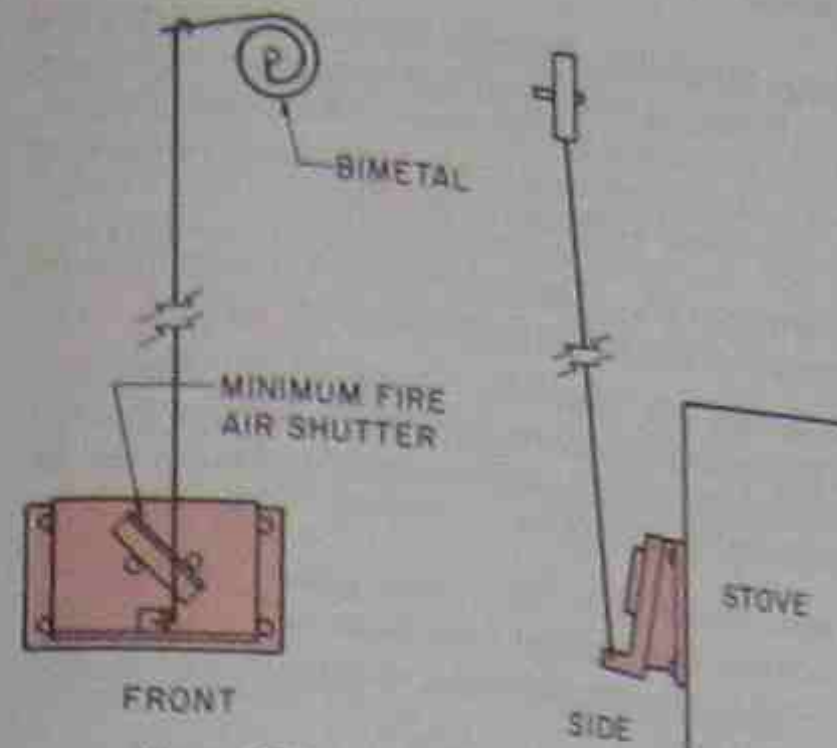

Figure 35-7. A thermostatic damper control.
**tion.** **\* Good-quality highly efficient stoves have a fire-brick lining to help retain heat and increase the life of the stove by providing added protection to the metal from the heat. Some stoves are designed with thermostatic controls. These controls open and close the damper with a bimetal device, Figure 35-7. Closing the dampers when the space is heated will result in better use of the fuel, thus providing more efficiency.**